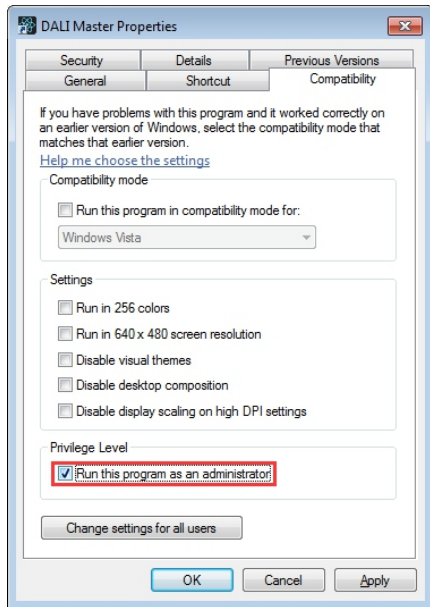

Figure 7 Run this program as an administrator
**Step 1:** Right click the desktop icon  to check the properties, switch to "Compatibility" tab, and check item "Run this program as an administrator" as shown in **Figure 7**.
**Step 2:** Click "OK" to complete the setting as shown in **Figure 7**.